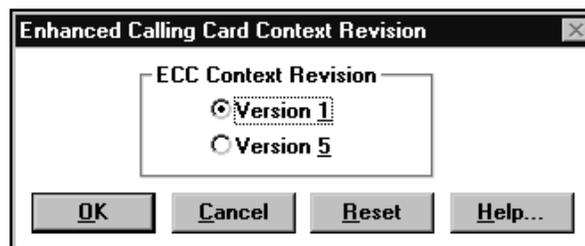

FIGURE 107. Example of ECC Context Revision dialog box
1. To select a revision level for an enhanced calling card (ECC) context block to be created by the IWS, select ECC Context Revision in the configuration window. (See Figure 107.)